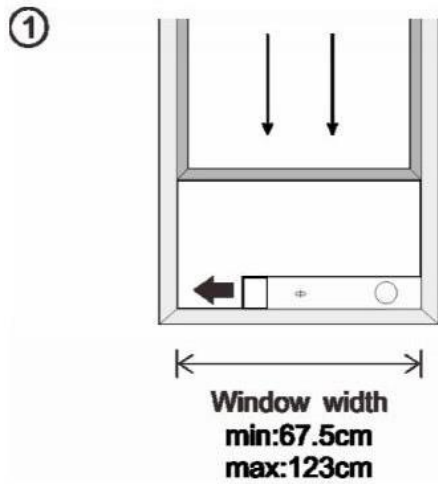
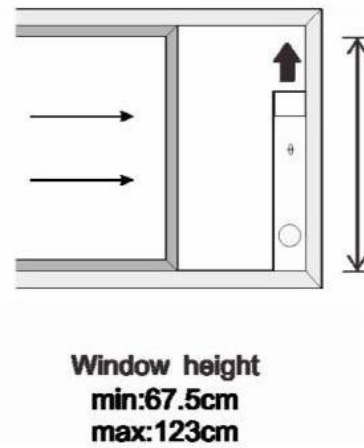

Fig.5
Fig.5a
The installation manner of window slider kit is mostly in "horizontal" or "vertical". As shown Fig.5 and Fig.5a, check the min. and max. size of the window before the installation.
1. Install the window kit on the window (Fig.5, Fig.5a);